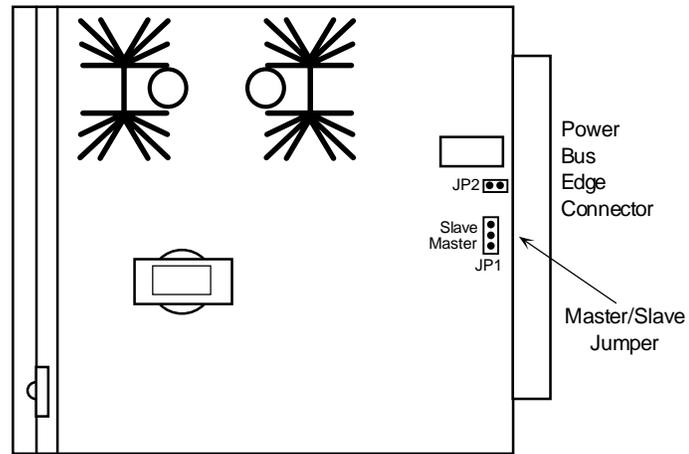

Figure 3-7. 105V Ringing Generator Jumper Setting
2. Make sure jumper W201 is installed if this is the only ringing generator in the unit, or if it is the MASTER ringing generator, Figure 3-7. If this is a SLAVE ringing generator, cut jumper W201 with wire cutters.